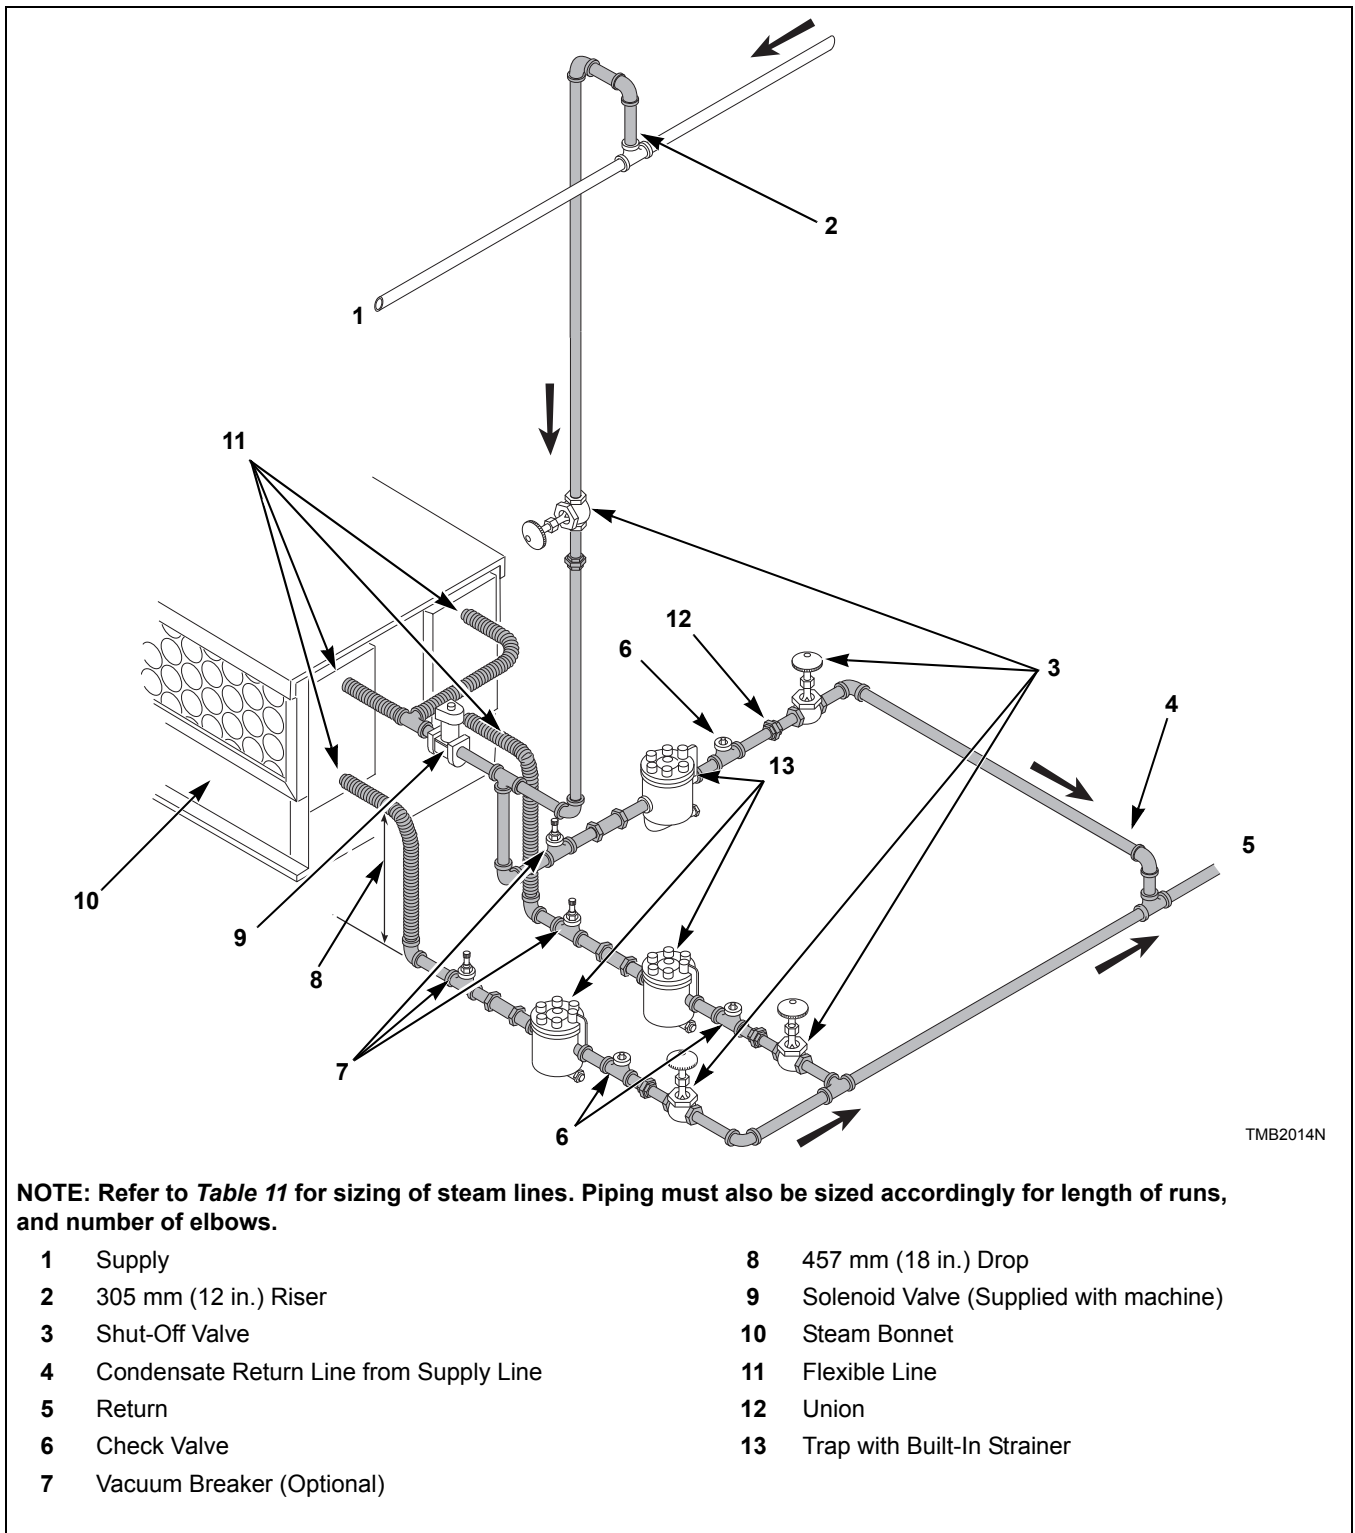

Figure 26
- Refer to *Figure 26* for proper steam pipe configurations.
The steam trap must be installed and the coil outlet connections must be connected to the condensate return lines. The following steps outline the procedure for installing the steam trap and connecting the condensate return lines. Refer to *Figure 26* for typical installations.